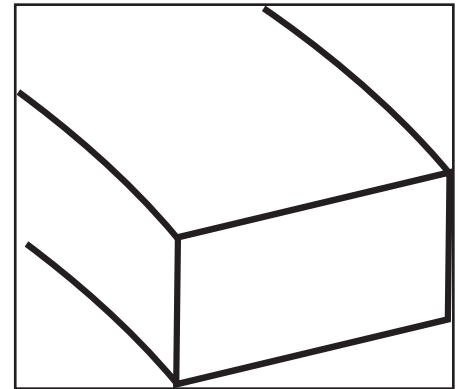

Figure 3
- 8- If ring has no dots and no bevel, it can go either way. **See Figure 3** above.